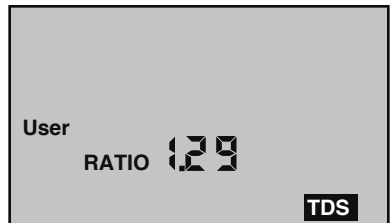

Figure 4
- b. Press CAL/MCLR twice (to skip over tempco adjustment) and "RATIO" will appear (see Figure 4).